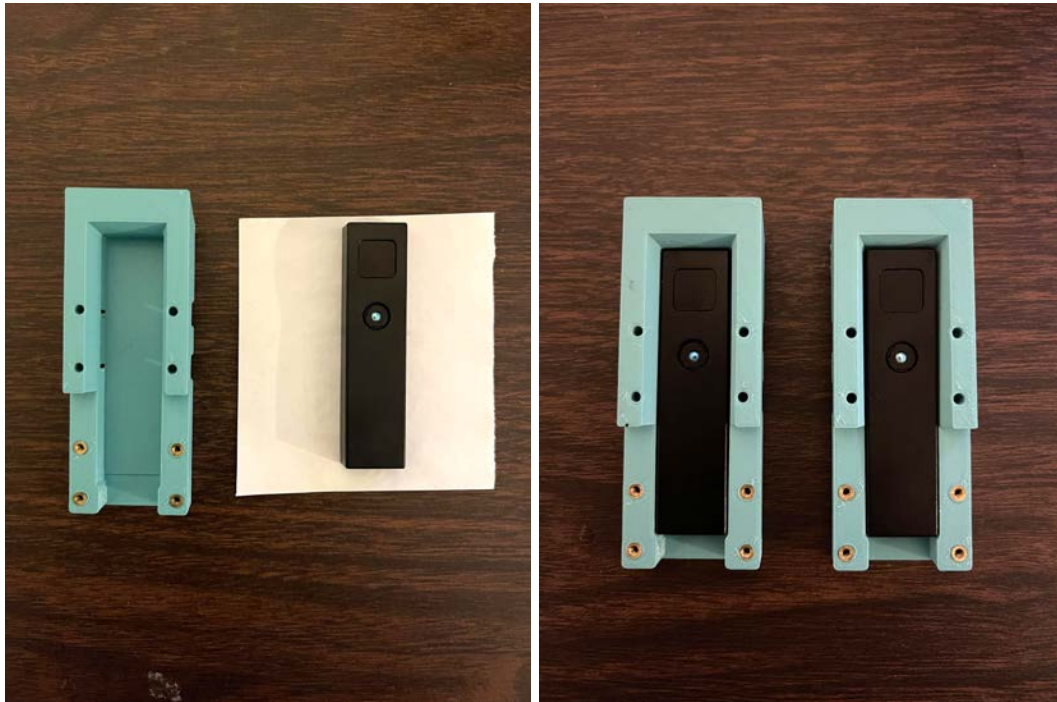

Figure 68: Pico Flexx inserted into part Pico\_Case\_Back
6. Insert a Pico Flexx into Pico\_Case\_Back part. You should angle it in and then snap it in place. It should be placed in the following orientation and butt up tightly against the upper surface (Fig 68).